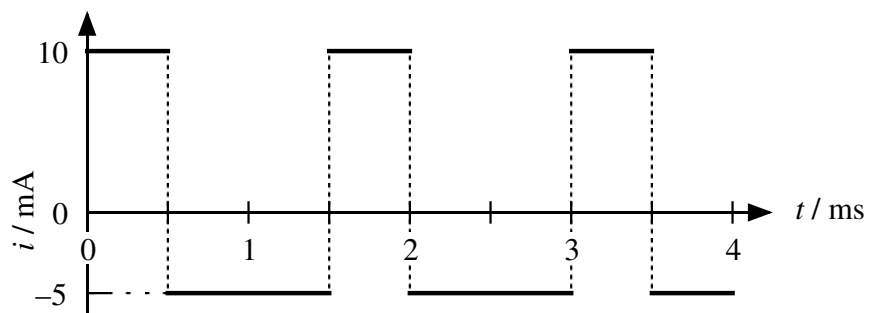

Figure 3. Current applied to a 10 μ F capacitor, which is initially uncharged.
- 1.4 The current $i(t)$ shown in figure 3 is applied to a $10 \mu\text{F}$ capacitor, which is initially uncharged. Calculate the voltage $v(t)$ across the capacitor as a function of time.